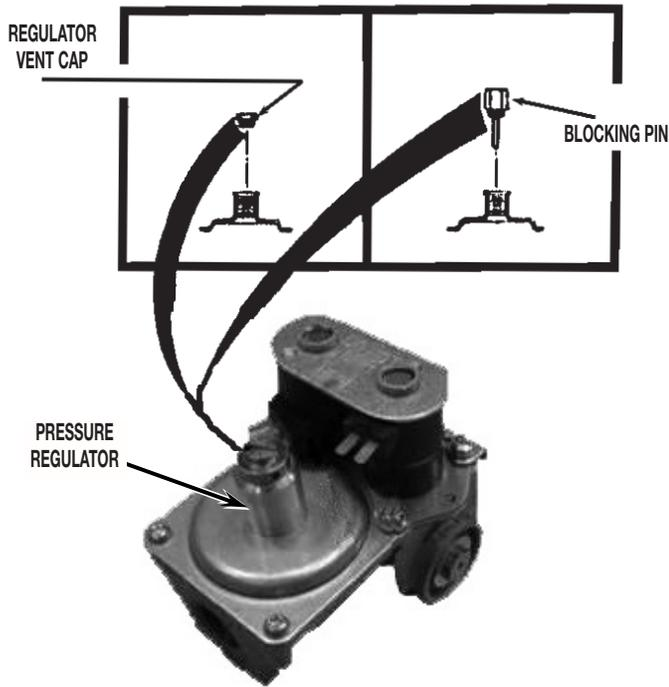

FIGURE 23
- Remove the regulator vent cap (leak limiting device) from the pressure regulator. See *Figure 23*. Continue to Step 32.